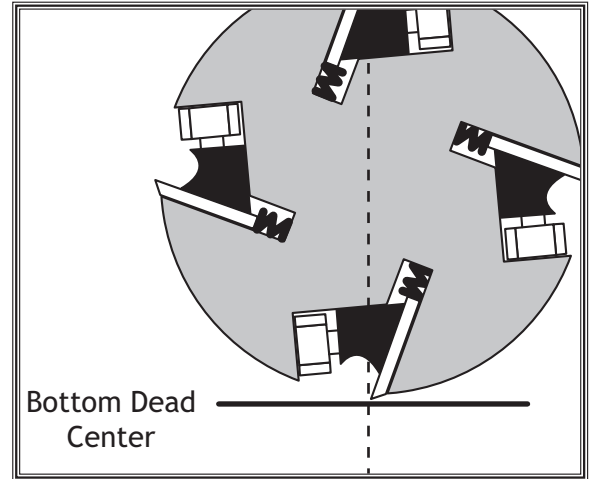

Figure 25. Knife edge at bottom dead center.
*BDC = Bottom Dead Center (see Figure 25).